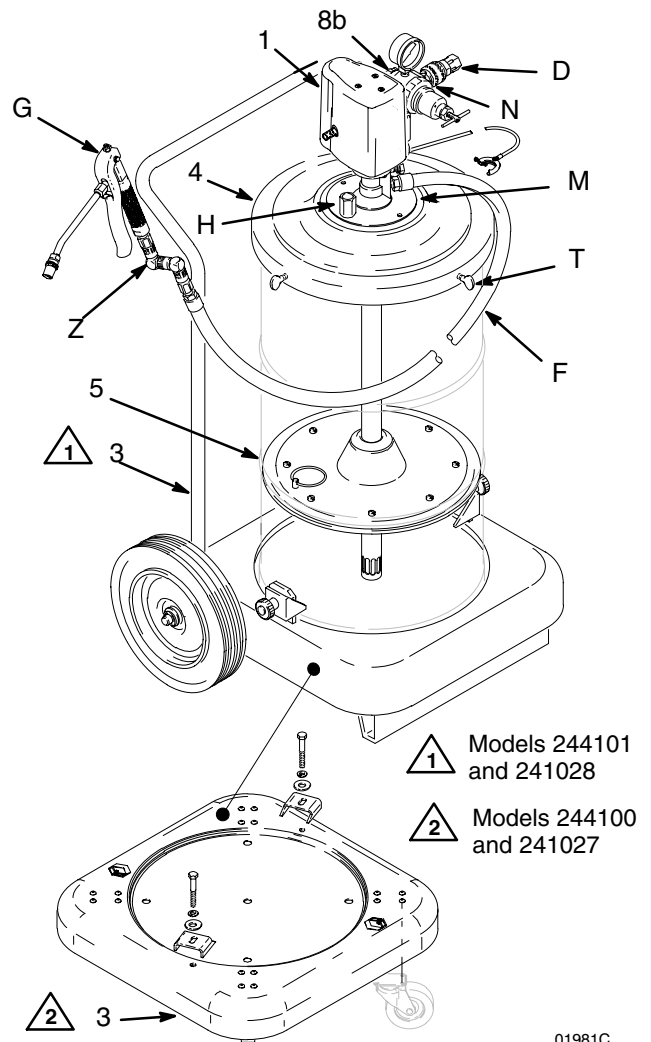

Fig. 6
3. See Fig. 6. Place the follow plate (5) on the surface of the grease.
4. Insert the pump through the cover (4) and slide the cover up far enough to let the pump pass easily through the follow plate grommet.
5. Fasten the cover (4) to the drum with the thumbscrews (T). Secure the pump to the cover with the two gun holders (H), using the proper hole pattern in the pump mounting plate (M).